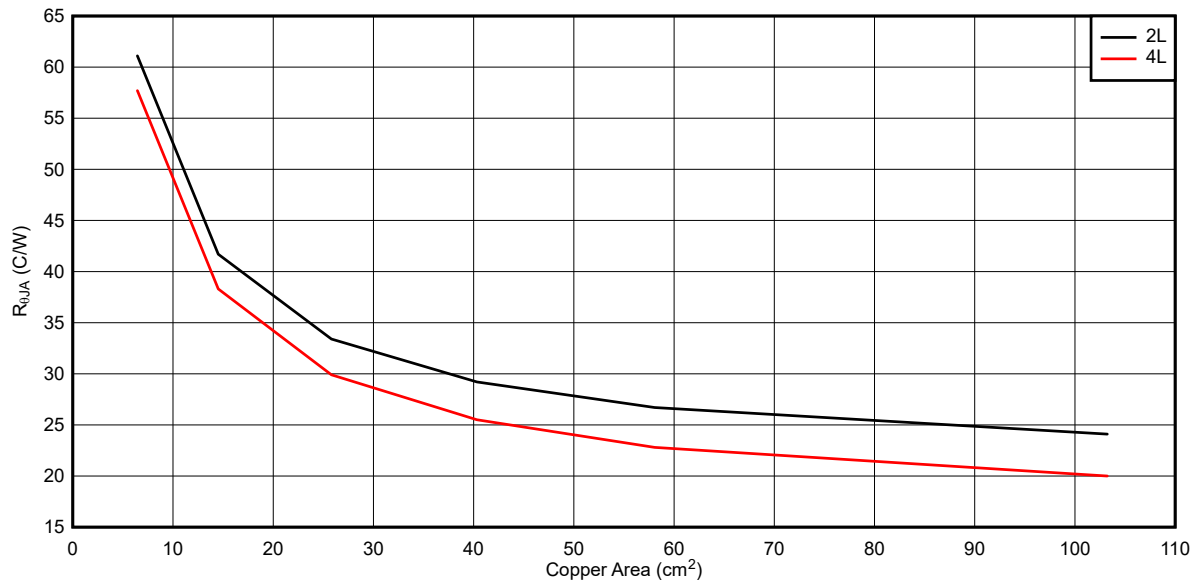

Figure 9-2. Typical $R_{\theta JA}$ Versus Copper Area
The LM501x features a die attach paddle, or "thermal pad" (EP), to provide a place to solder down to the PCB heat-sinking copper. This provides a good heat conduction path from the regulator junction to the heat sink and must be properly soldered to the PCB heat sink copper. Typical examples of $R_{\theta JA}$ can be found in Figure 9-2. The copper area given in the graph is for each layer. The top and bottom layers are 2-oz. copper each, while the inner layers are 1 oz. Remember that the data given in this graph is for illustration purposes only, and the actual performance in any given application depends on all of the previously mentioned factors.
To continue with the design example, assume that the user has an ambient temperature of 70°C and wishes to estimate the required copper area to keep the device junction temperature below 125°C, at full load. From the curves in Section 9.2.3, an efficiency of about 92% was found at an input voltage of 48-V with output of 12-V with 1.75-A load. The efficiency will be somewhat less at high junction temperatures, so an efficiency of approximately 90% is assumed. This gives a total loss of about 2.3 W. Subtracting out the conduction loss alone for the inductor and catch diode, the user arrives at a device dissipation of about 1.54 W. With this information, the user can calculate the required $R_{\theta JA}$ of about 30°C/W. Based on Figure 9-2, the required copper area is about 40-cm², for a two-layer PCB.